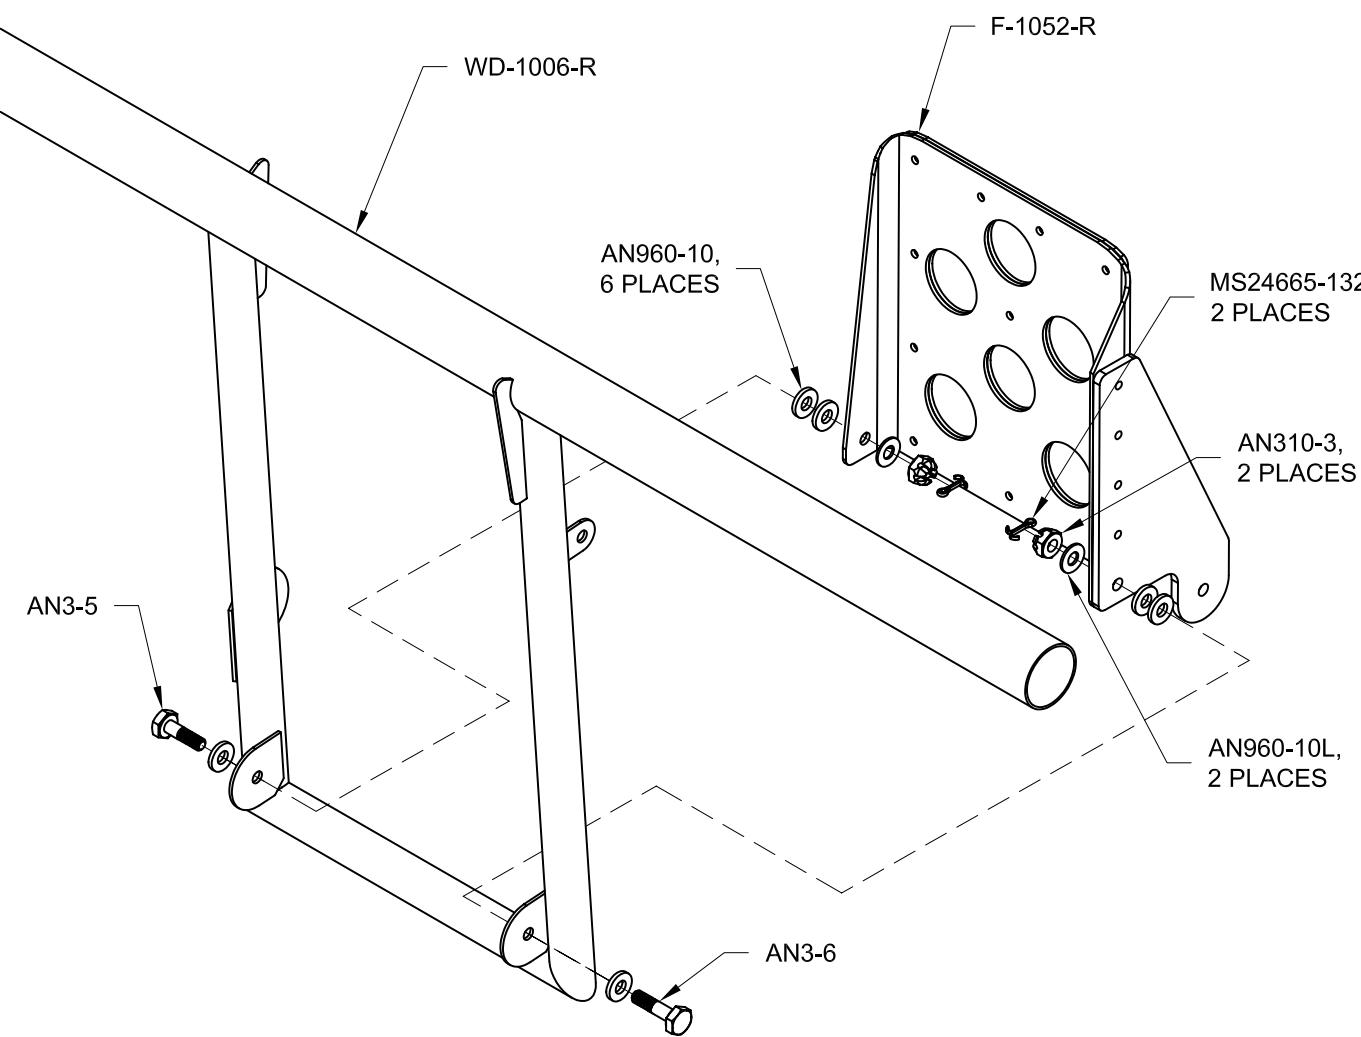

FIGURE 1: BRAKE PEDAL INSTALLATION
Step 4: Refer to the isometric view on Page 38-1 and Page 38-6, Figure 1. Install an AN822-4D Elbow into the lower ports on both brake master cylinders on the pilot side of the aircraft. Note the clocking of the elbows in Page 38-6, Figure 1 which routes the F-8105 Brake Hoses between the upper ports of the brake master cylinders and away from the brake pedal area.
Step 5: Refer again to the isometric view on Page 38-1 and Page 38-6, Figure 1 and install F 69-F-04X02 Brass Elbows in the six remaining ports on both the pilot and co-pilot brake master cylinders. Again note the clocking of the lower elbows on the co-pilot side of the aircraft in Page 38-6, Figure 1.